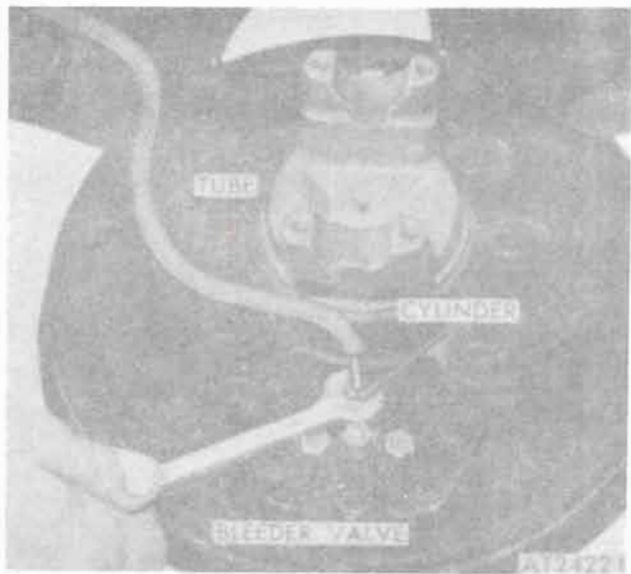

Figure 11-9. Rear wheel brake cylinder tube.
b. Disconnect brake tube at cylinder and remove tube (fig. 11-9).
c. Remove brake cylinder bleeder valve (fig. 11-9).